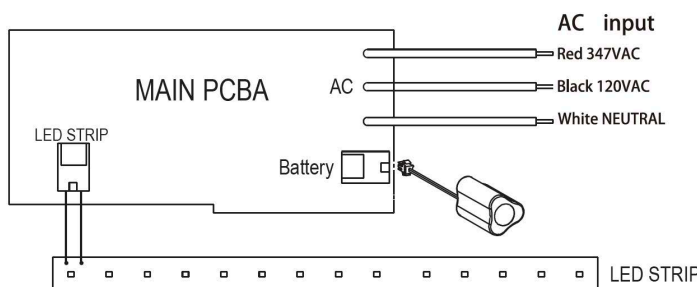

Fig.7 Wiring Diagram
6. Make electrical connections inside the J-Box as per wiring diagram (see Fig.7)